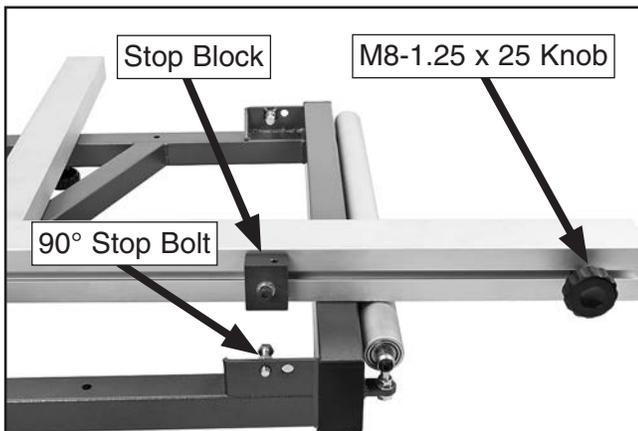

Figure 46. Front end crosscut T-slot components.
- a) Insert and align an M8-1.25 T-nut with the hole in the slot that is farthest from the saw blade, then thread (1) M8-1.25 x 25 knob with the nylon end through the T-nut and into the fence hole, as shown in **Figure 46**. This will secure the fence extension in place when fully tightened.
- b) Align an M8-1.25 T-nut with the 90° stop bolt shown in **Figure 46**, insert (1) M8-1.25 x 35 cap screw with a 8mm lock washer through the stop block, then thread the cap screw into the T-nut.